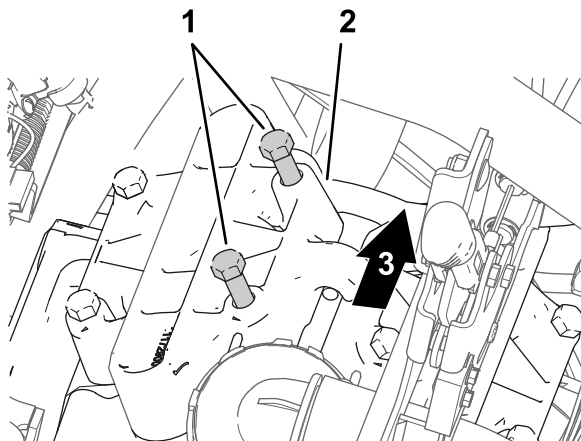

Figure 178
1. At the pump head located at 11 o'clock position, loosen the 2 bolts as shown Figure 178 to provide a 7 to 10 mm (1/4 to 3/8 inch) gap between the head of the bolts and the pump.